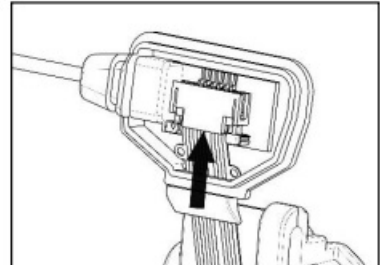

Fig. 6
6. Gently insert the keypad flex in its housing (Fig. 6).